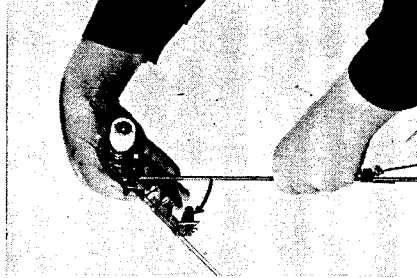

Fig. 8
- b. To straighten out, turn the front yarn guide arm in the direction of the red arrow. (See Fig. 8)